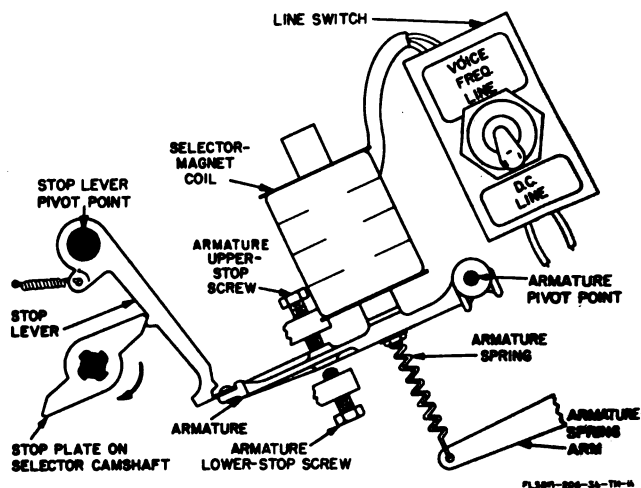

Figure 2-14. Armature held in marking position by energized selector magnet.
*a. Condition During Marking Impulse.* When either a marking code impulse or the stop impulse is received current flows through the two selector-magnet coils and a magnetic field is present around the coils (fig. 2-14). The magnetic field is strong enough to overcome the tension of the armature spring and the armature is held against the armature upper-stop screw (marking position of armature).
c. *Starting Selector Camshaft Rotation.* When the start impulse is received, the armature spring pulls the armature downward, against the armature lower-stop screw (para 2-17b ) and the lower end of the armature releases the stop lever (fig. 2-14). Pressure of the stop plate causes the stop lever to pivot counterclockwise slightly, and the selector camshaft is permitted to start turning (B, fig. 2-16).
The five code impulses of a code group are received in sequence immediately after the selector camshaft starts turning (para 2-17c). Each of the code impulses is either a marking (current) or spacing (no-current) impulse (fig. 2-2), as determined by the code group assigned to the character to be printed, or the nonprinting operation to be performed by the page printer. A marking code impulse always causes the armature to be drawn upward, against its upper-stop screw (fig. 2-14). A spacing code impulse always allows the armature spring to pull the armature downward against its lower-stop screw. Five selector cams (fig. 2-15 and 2-17), five selector levers, and five Y-levers (one of each for each code impulse), are used to record the position of the armature while each of the five code impulses are being received. The selector cams are staggered around one-half the circumference of the selector camshaft (fig. 2-15), which makes  $\frac{1}{2}$  revolution for each code group received. The first selector cam and its associated selector lever and Y-lever record the nature (marking or spacing) of the first code impulse; the second
- 1 Start impulse received in selector-magnet coils (fig. 2-14).